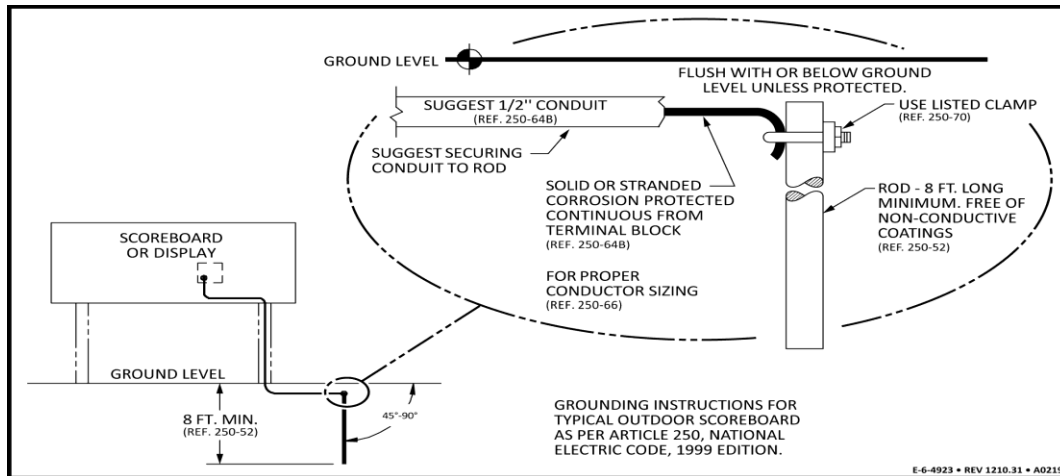

FIGURE 14 – TYPICAL GROUND WIRE CONNECTION
The proper grounding of the electrical circuits and the scoreboard is an important aspect of an installation to ensure reliable operation, reduce potential lightning damage and for safety. Refer to Figure 14 and to Article 250.56 and 600 of the National Electric Code, and ANSI/IEEE 142-1.6.6. The location of the disconnect switch after installation shall comply with Section 600.6(A) of the National Electrical Code.